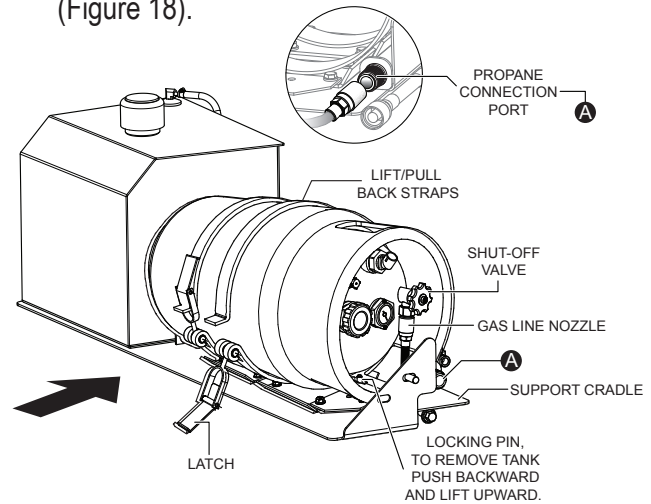

Figure 18. Propane Tank Removal
2. **CLOSE** the shutoff valve on the propane tank (Figure 18).